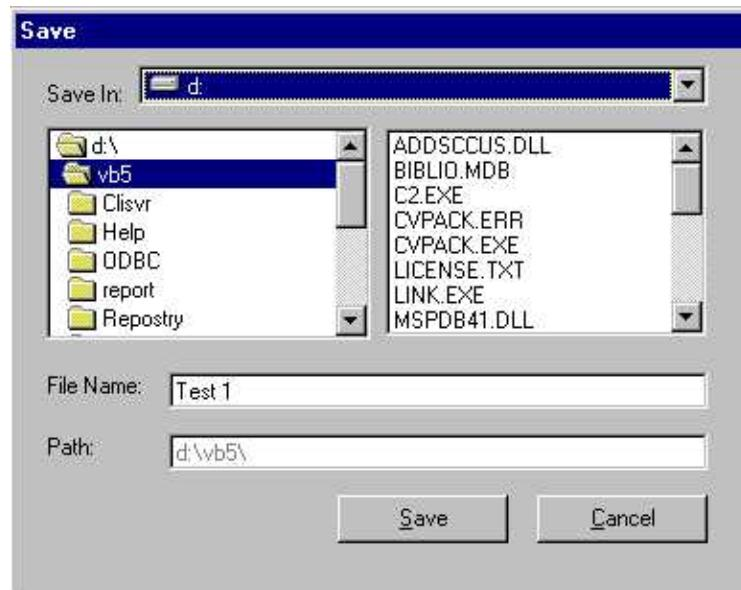

Figure 3.32. Save Data
2. Select the directory where you would like this information to be saved by double-clicking it. (Figure 3.32)